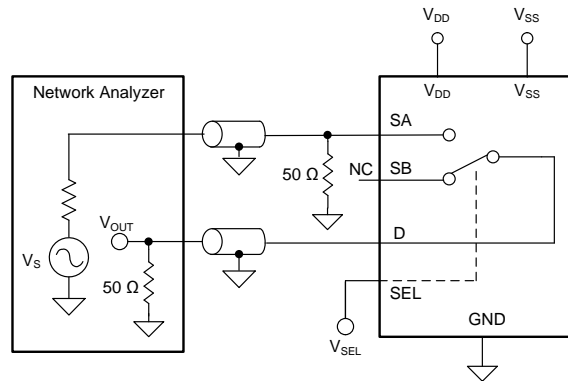

Figure 25. Off Isolation Measurement Setup
Off isolation is defined as the voltage at the drain pin (D) of the TMUX6119 when a 1- $V_{RMS}$  signal is applied to the source pin (SA or SB) of an off-channel. Figure 25 shows the setup used to measure off isolation. Use Equation 2 to compute off isolation.